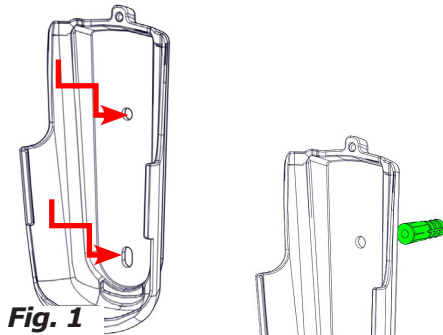

Fig. 1
- Position bracket on wall. Mark top and bottom bracket holes (Fig. 1).